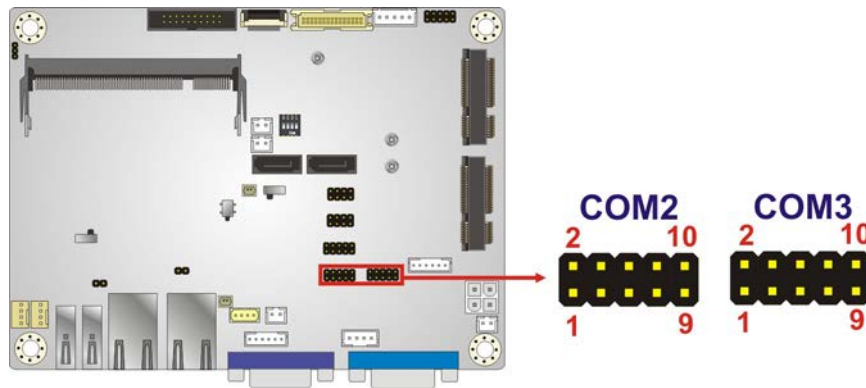

Figure 3-18: RS-232 Serial Port Connectors Locations
- CN Location:** See **Figure 3-18**